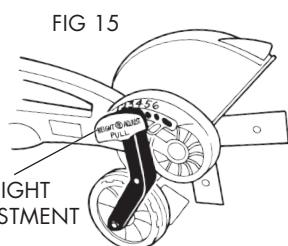
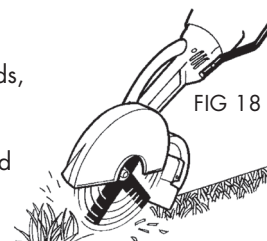
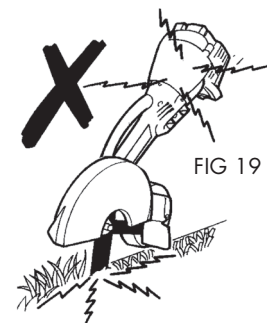

FIG 15
FIG 18
FIG 19
3. Adjust blade height (Fig. 15) and with new blade, try No. 3 position.
6. If blade is not deep enough, or if digging too deep, adjust blade height, to suit depth required (Fig. 15). Depth of cut into soil should not exceed 10-15mm. **It is always more comfortable and relaxed to have arms fully extended downwards** as shown in Fig. 16 and on front cover illustration.
10. Blades should spin under load. If blades rotates slowly, jams or stops in the ground (Fig. 19), lower handles, pull unit back, release trigger and recommence (Fig. 18). Re-adjust blade height (Fig. 15).
11. Clutch: The Atom Edger is equipped with a safety clutch. **DO NOT** run edger if blade is jammed, as clutch shoes will prematurely wear and cause damage if cutting blades do not rotate (Fig. 19).